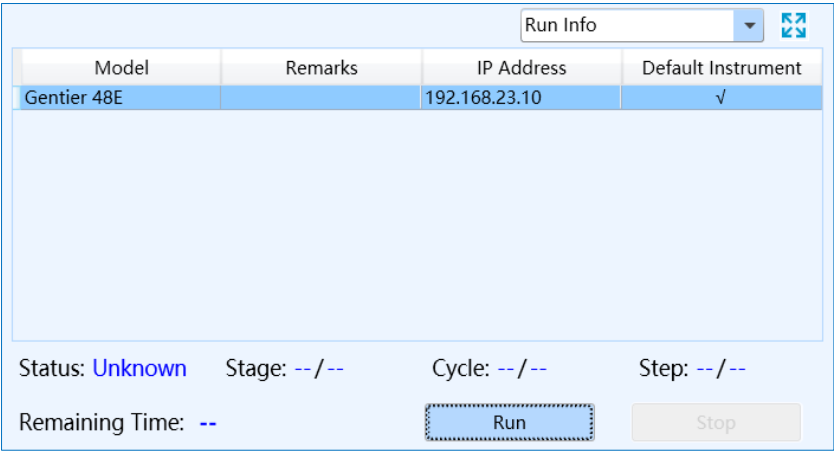

Figure D-7.4. Run Monitoring Interface - Run Info Function Module
4. **Run Info:** display the current instrument information and the real-time running status, such as the *Stage*, *Step*, *Cycle* and *Remaining Time* of of the current experiment, as shown in figure D-7.4.